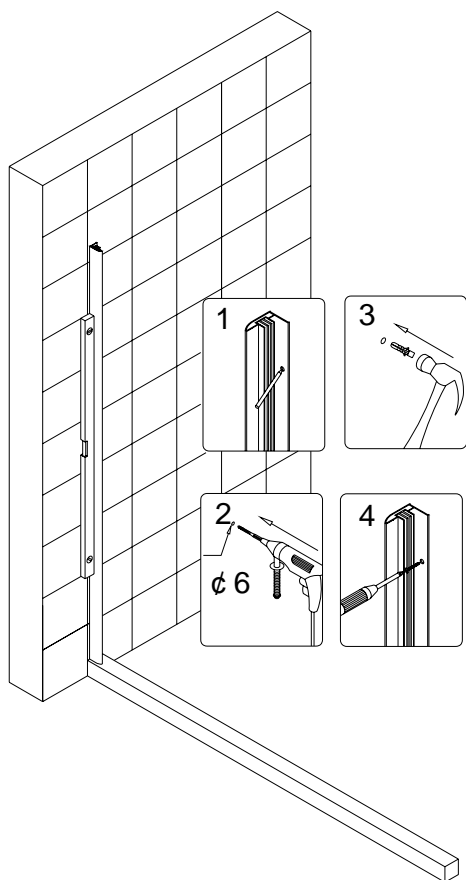

Fig 1
1. Remove the **Wall profile (01)** (this is the external part of the wall and glass profiles set with no holes along the surface side) and place it against the wall on the threshold in the designated position. Note that this part of the profile piece should be fastened as shown in fig.1. Make sure it's leveled and plumbed. Mark the drill holes on the wall. Drill the holes, insert **Wall Anchors (07)** and attach the external profile wall profile to the wall with the **Screw ST4.2x30 (10)**. See fig. 1 for details.